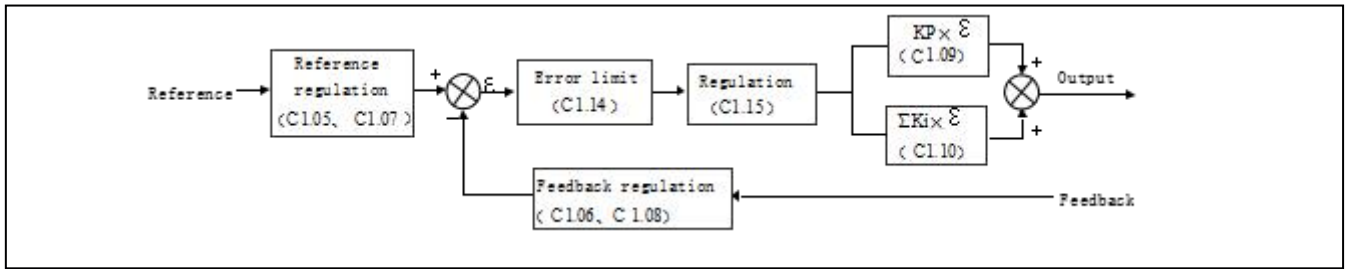
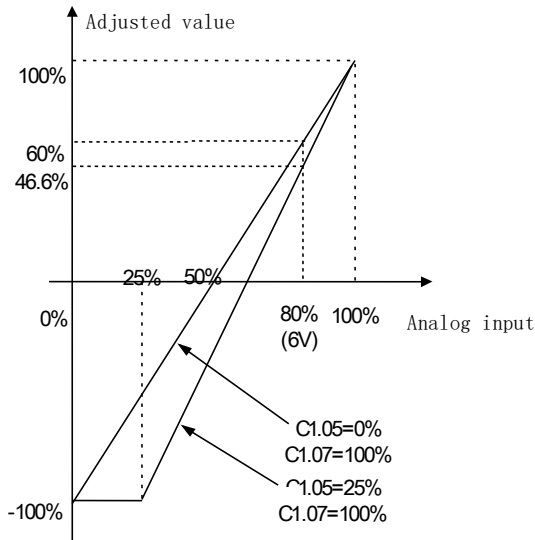

Fig.6-41 Principle diagram of process close-loop control
Fig.6-43 Regulation curve of reference
Operating principles of internal process close-loop of FV20 is shown in the Fig. 6-41
In Fig. 6-41, refer to C1.00~C1.14 for the definitions of close-loop reference, feedback, error limit and proportional and Integral parameters
The regulation relationship between C1.05,C1.07(in Fig.6-41) and reference is shown in Fig.6-43.When the analog input 6V,if C1.05 = 0 % and C1.07 = 100% , then adjusted value is 60%.If C1.05 = 25% and C1.07 = 100% , then the adjusted value is 46.6%.
- 1 . Fig.6-43,0% ~ 100% in X axis is corresponding to analog input - 10V ~ 10V,10V of analog input is corresponding to 100%,and - 10V is corresponding to 0%,6V is corresponding to 80%.
The regulation relationship between C1.06, C1.08 (in Fig.6-41) and feedback is similar to reference regulation. Its adjusted value can be observed in d0.25.